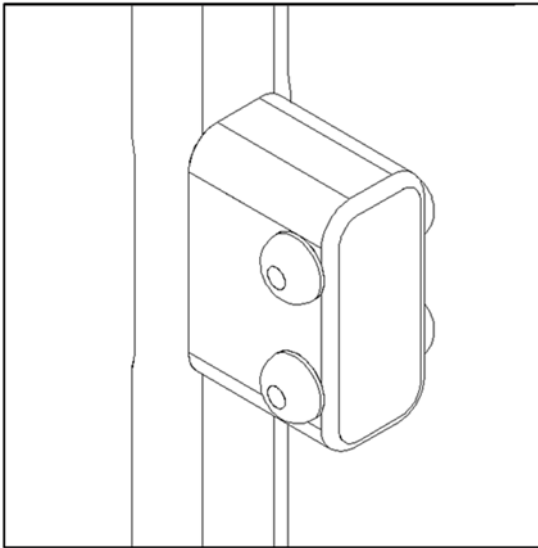
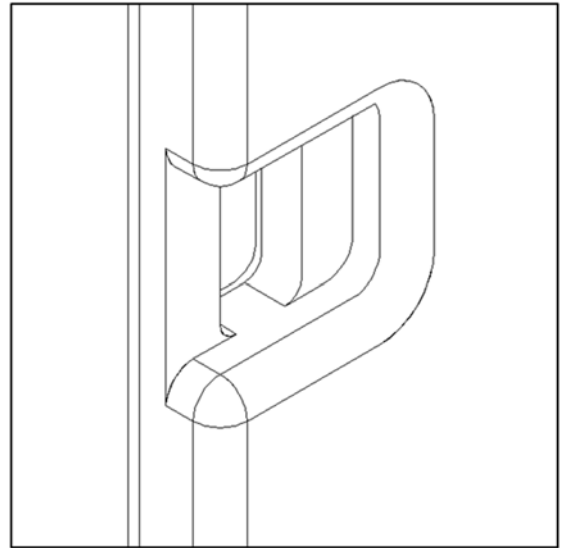

Fig 1 – Pin
Fig 2 –Socket
Note: Snap Lock Hunting Blinds uses a pin (see fig 1) and socket (see fig 2) system to adjoin the panels. To assemble correctly, the pin is inserted into the *non-recessed* side of the socket (see fig 3). When assembled, **the logo on each panel will face to the outside of the blind.**
Step 1. If assembling 4x6 model, join top section of long side wall to bottom section keeping pins (see fig 1) on each section to the same end (see fig 4). Push down on upper panel until it locks into lower panel. Repeat for second long, side wall.